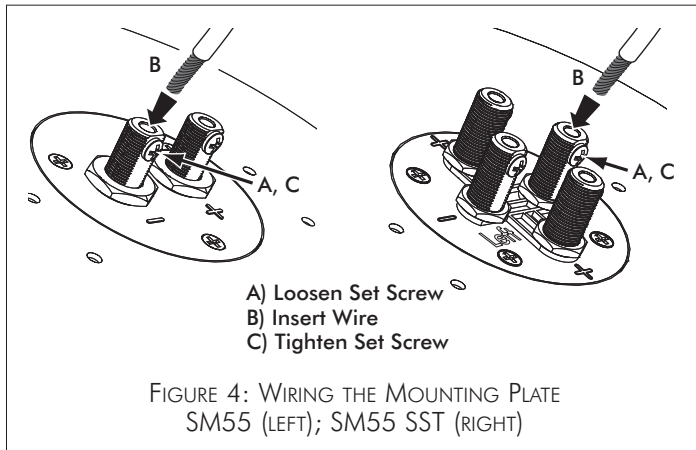

FIGURE 4: WIRING THE MOUNTING PLATE
2. Bring the speaker wires through the J-Box and attach them to the binding posts on the back of the Mounting Plate. (The SM55 plate has one set of posts; the SM55 SST plate has two sets, see Figure 4.) The binding posts will accept single banana plugs or bare wire.